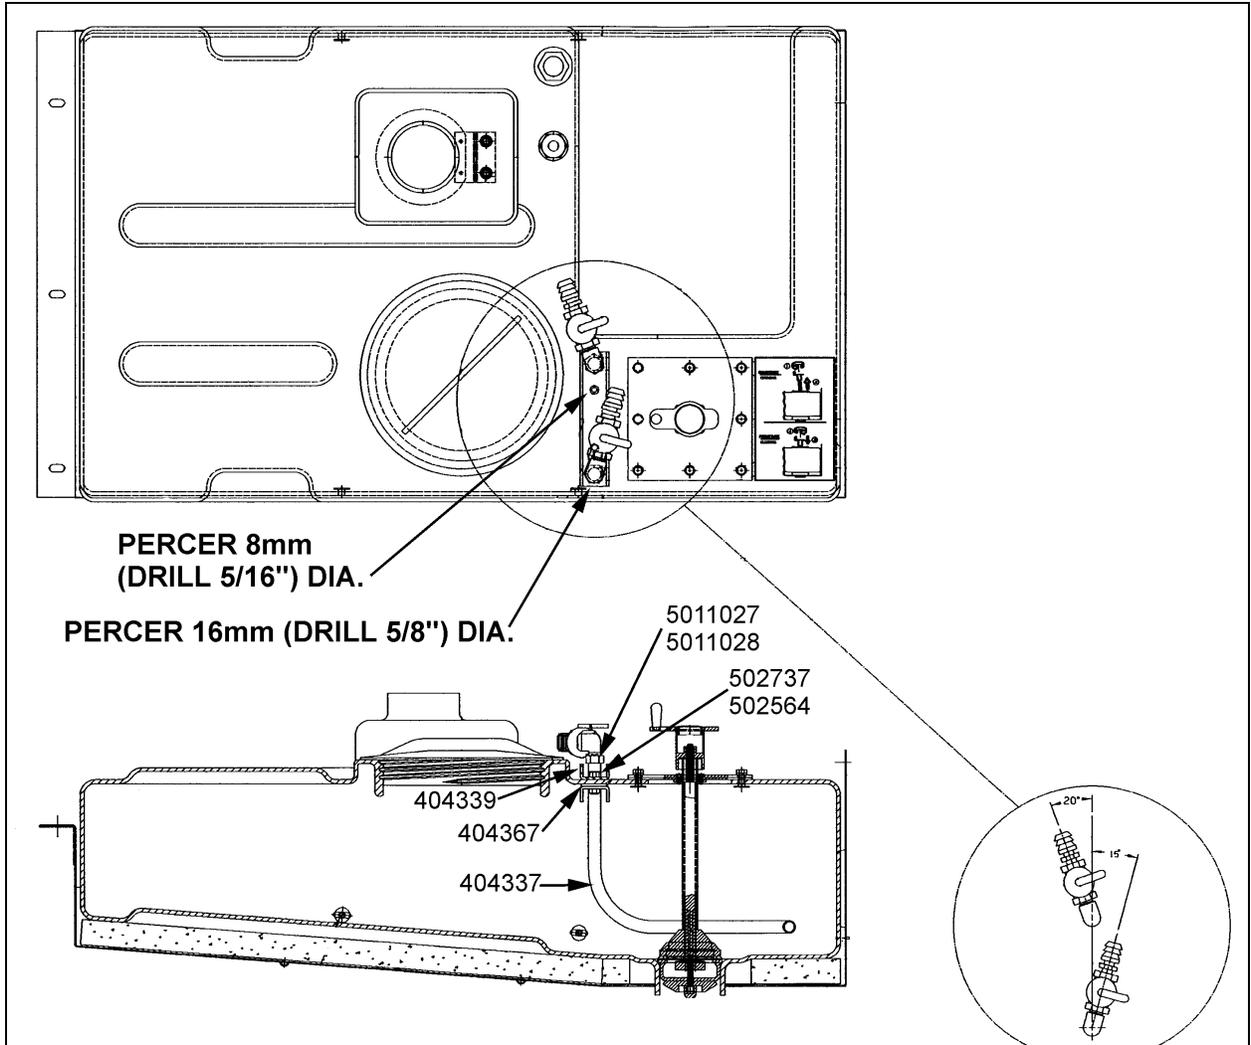

FIGURE 3 : HEATING COIL ARRANGEMENT
1. Drill two 16mm (5/8") diameter holes and two 8mm (5/16") diameter holes on top of tank (refer to figure 3). Use the mounting plate #404339 to mark on the position of holes.